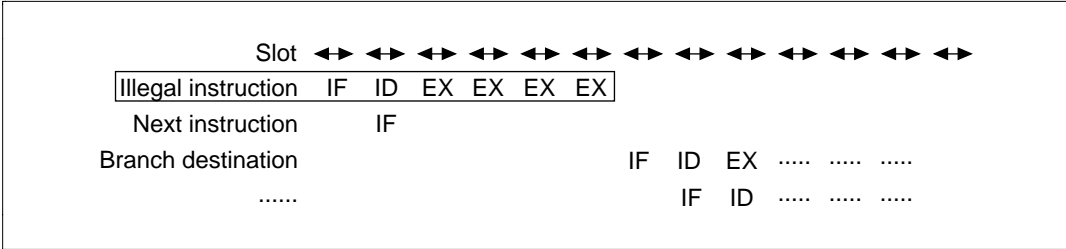

Figure 10-67 Illegal Instruction Exception Processing Pipeline
The illegal instruction is received during the ID stage of the instruction and everything after the ID stage is replaced by the illegal instruction exception processing sequence. The pipeline has six stages: IF, ID, EX, EX, EX, and EX (figure 10-67). Illegal instruction exception processing is not a delayed branch. In illegal instruction exception processing, an overrun fetch (IF) occurs. Whether there is an IF only in the next instruction or in the one after that as well depends on the instruction that was to be executed. In branch destination instructions, the IF starts from the slot following the final EX in the illegal instruction exception processing.